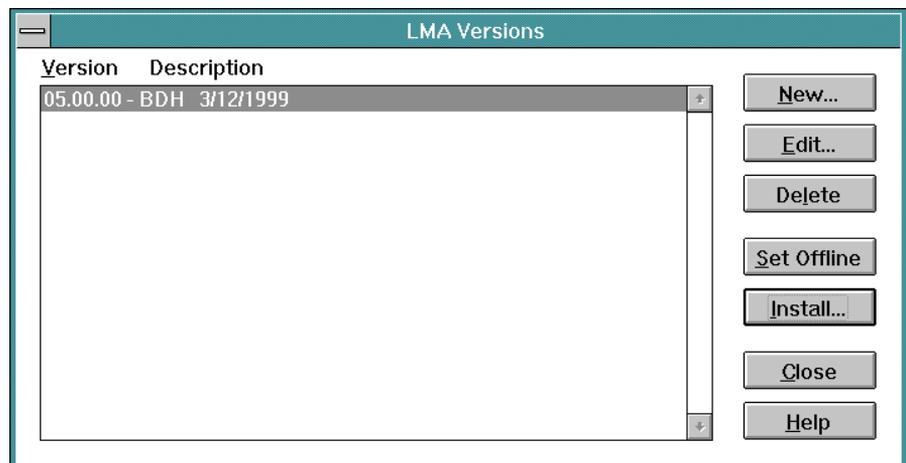

Figure 158. *Completed LMA Versions Dialog Box*
7. Type an LMA description (up to 24 alphanumeric characters). The description should contain the name or initials of the installer and the date of installation. When complete, click the *OK* button. The *LMA Versions* dialog box reappears (Figure 158) with the new LMA version entered.